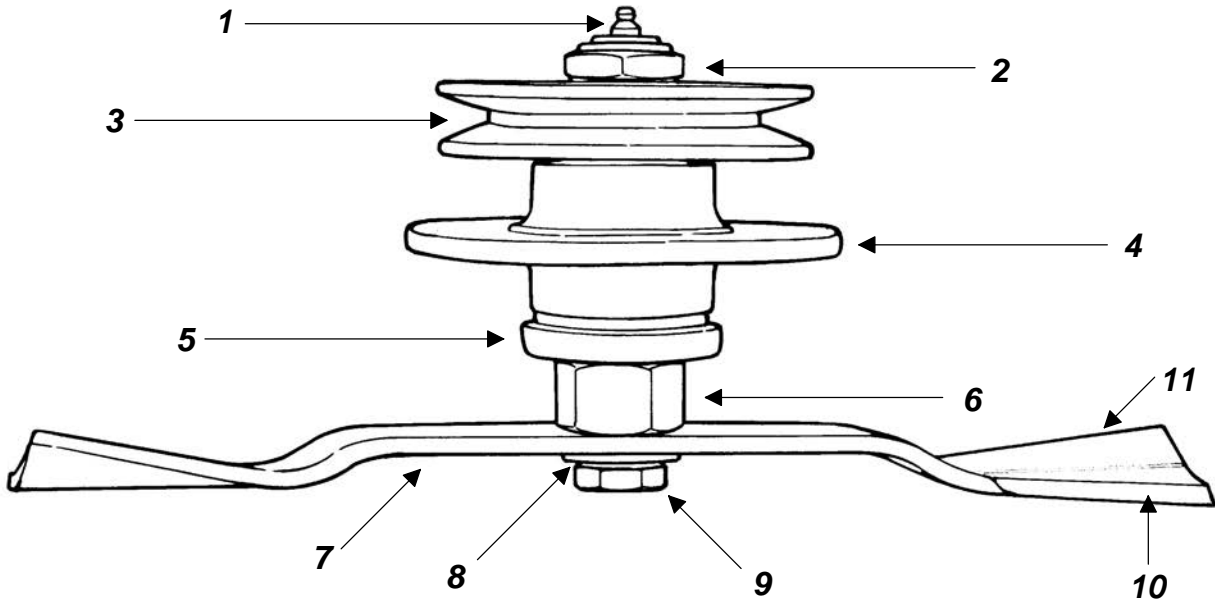

Fig. 14 - Spindle assembly.
1. Lubricate the three spindles with multipurpose grease (**see fig. 13**). Pump grease until you see it seep through the hole on the bottom cover (**see #5, fig. 14**) of the spindle. The top grease fittings are easily accessible from the top of the deck by simply removing the plastic dust guards.
1. The blade turns in a **counter clockwise** direction when viewed from the bottom of the deck. The cutting edge must be towards the direction of rotation. The lift wing of the blades is closest to the deck and the cutting edge away from it (**see fig. 14**).
2. Install the cup washer (**see fig. 14**) over the blade bolt and secure the blade in place as described above.
2. Remove the nut holding the pulley to the spindle shaft (see fig. 14).